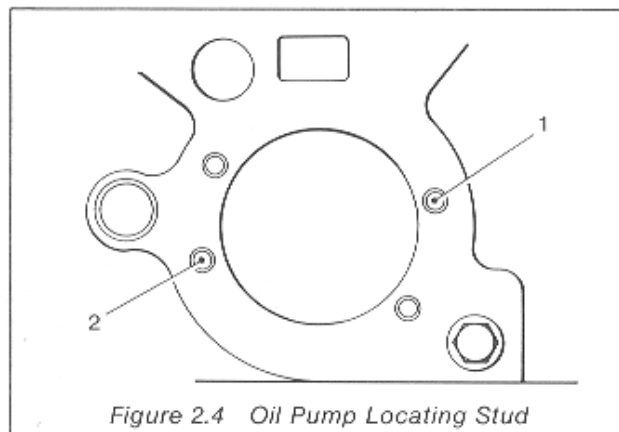

Figure 2.4 Oil Pump Locating Stud
- (1) Fit a new joint washer.
- (2) Locate the pump on the stepped stud, ensuring that the stud is in the correct position as shown in Figure 2.4.